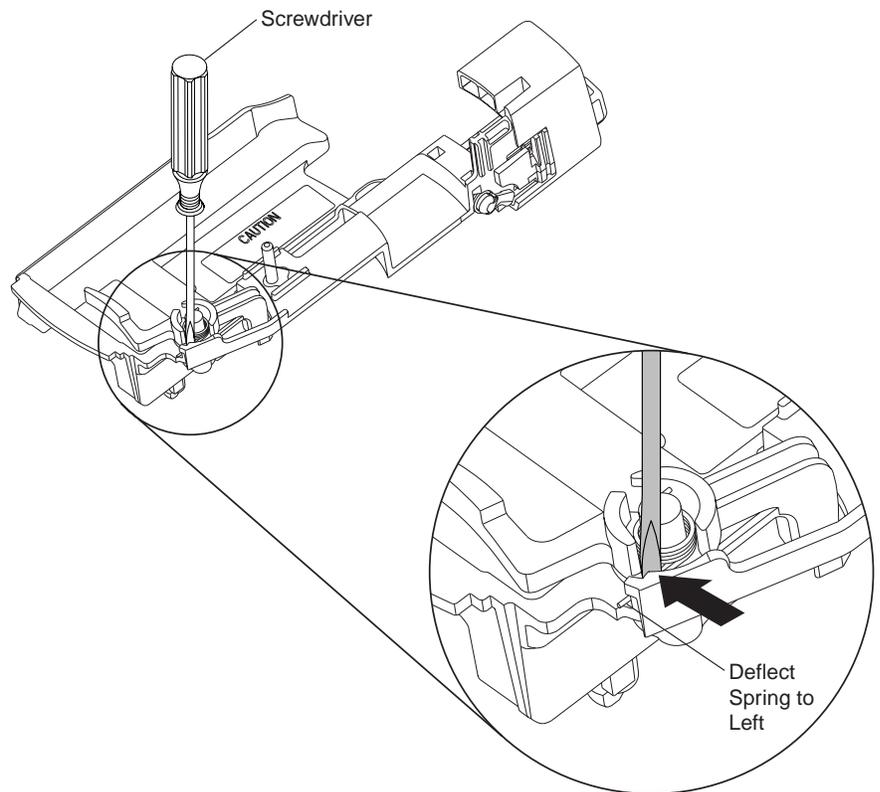

Figure 9 Removing the Kicker
17. Remove the pin (30) and the purple universal bushing (29) from the pocket housing (5) by pulling upward on the pin.
18. Remove the kicker (4) from the pocket (see Figure 9):